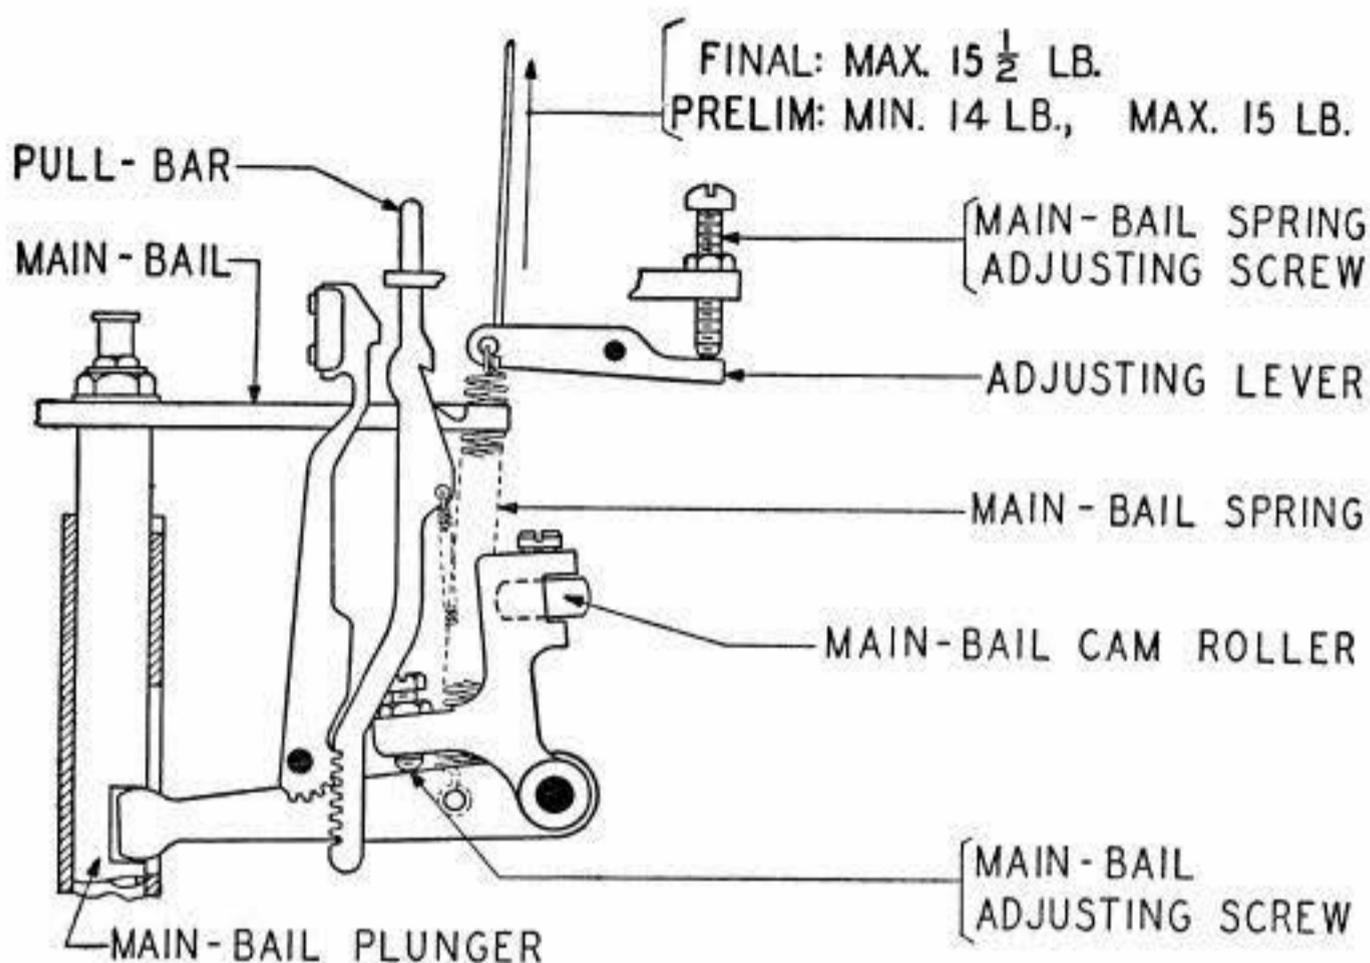

Fig. 28
- (a) It should require a pull as indicated in Fig. 28 to start the adjustment lever moving. **Fig. 28**